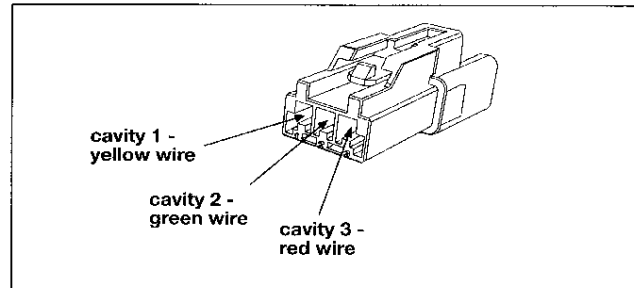

Fig. 23
- Slip the supplied 16 1/2" section of protective plastic conduit over the green, yellow, and red wires inserted into the hood release cable grommet in the previous section. After the conduit has been installed, insert the green, red, and yellow wires into the 3-cavity male connector supplied. Insert the green wire into the center cavity, the red wire into the right cavity, and the yellow wire into the left cavity. See Figure 23.